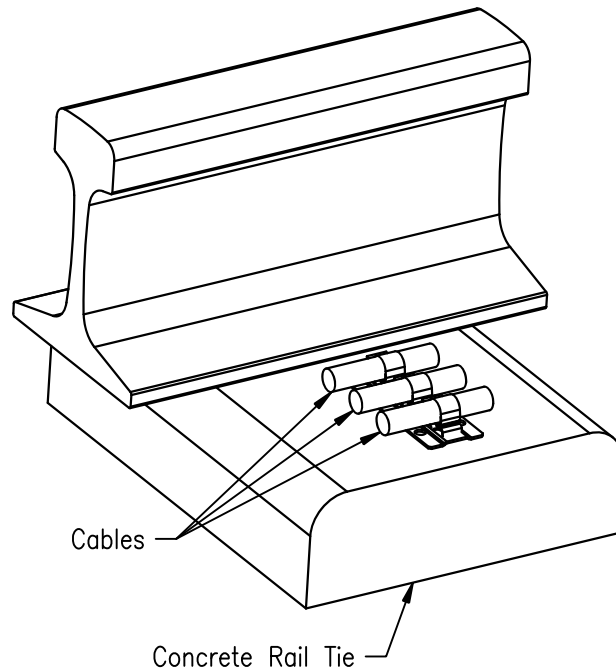

Figure 4
6. Allow 24 hours for the glue to cure before installing the cables (See Figure 4).